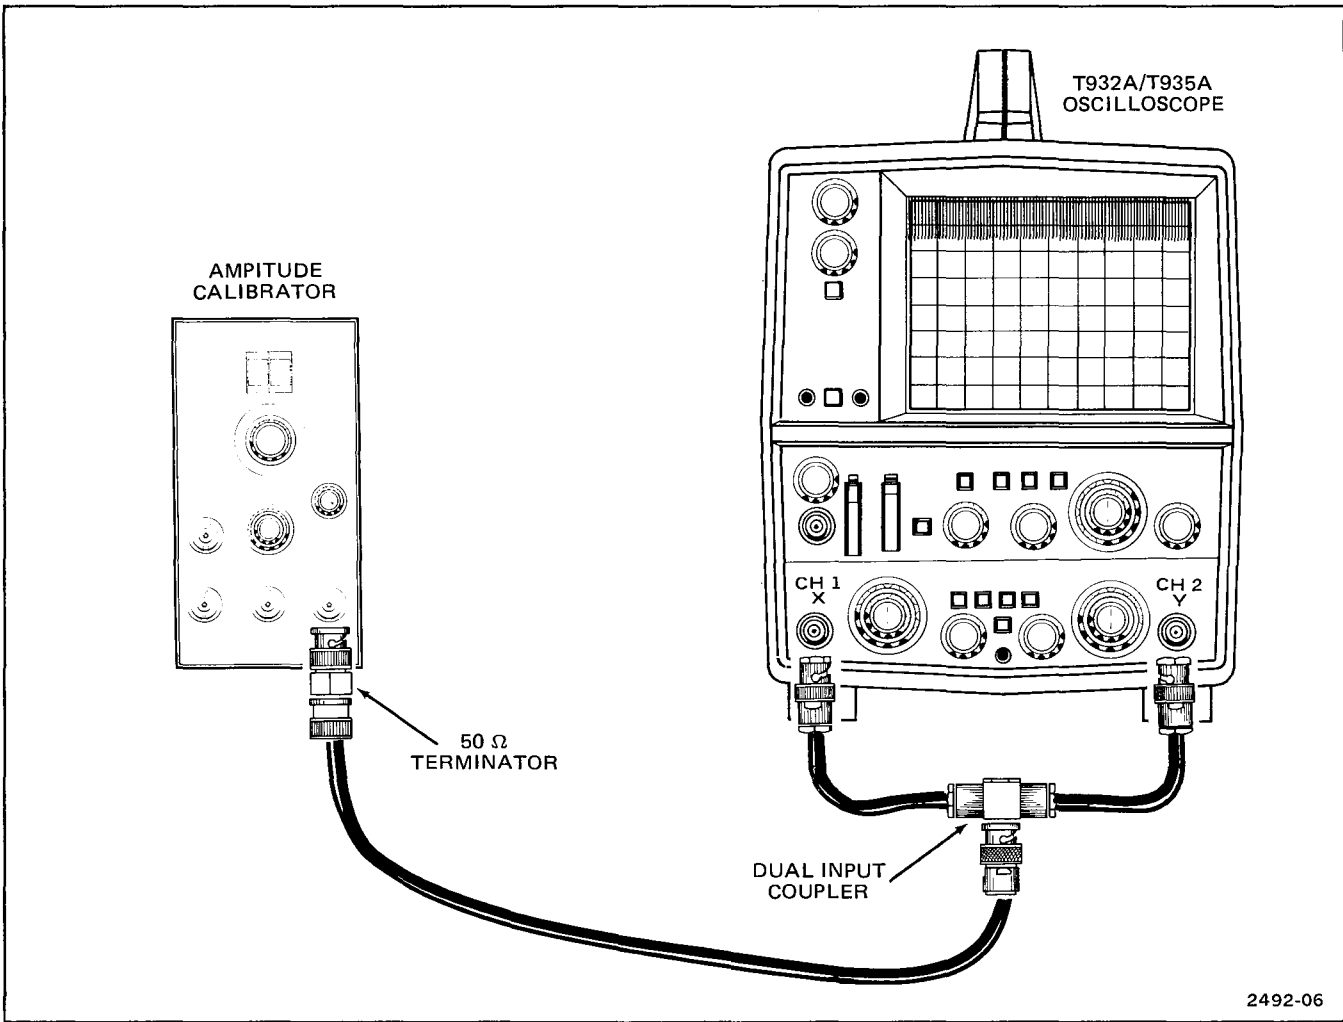

Fig. 3-1. Deflection accuracy check test setup.
- Connect test equipment as shown in Fig. 3-1 (use appropriate POSITION control as needed to center the display within the graticule area).